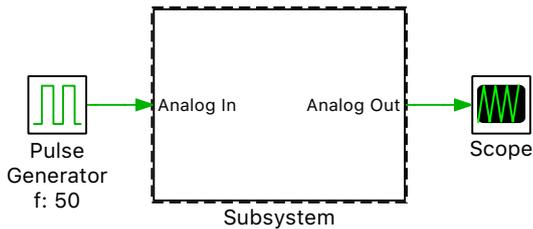

Figure 9: Subsystem in CodeGen mode with a dashed bold border
- 5 Right-click the Subsystem and select the **Subsystem + Simulation mode + CodeGen** option. Once you select the CodeGen mode the subsystem border will change to a dashed bold line as shown in Figure 9. When in CodeGen mode, PLECS uses the discretized C code representing that subsystem. Scopes within the discretized subsystem will not update, but Scopes external to the subsystem will.